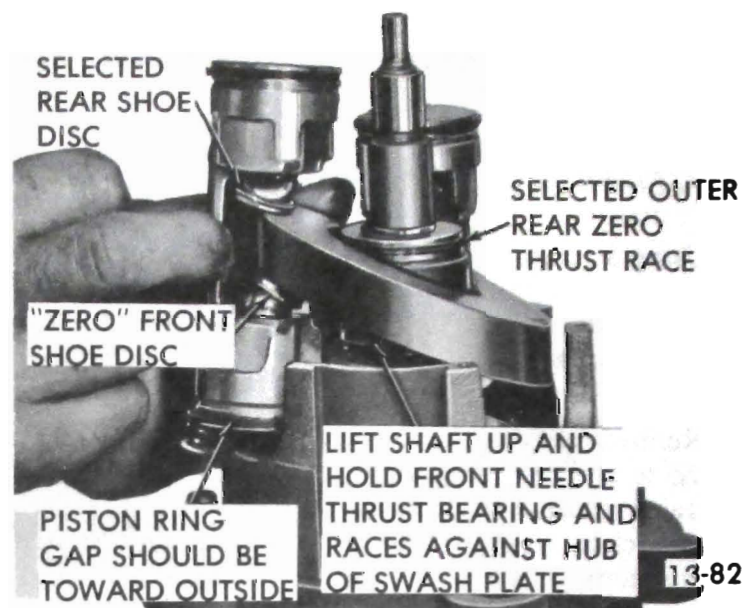

Figure 13-65 Installing Piston Assembly in Front Cylinder Half
3. Rotate shaft and swash plate assembly until high point of swash plate is over No. "1" cylinder bore. Position No. "1" piston onto swash plate (see Figure 13-65) and lower the piston and swash plate so that the front end (notched end) of the piston enters the cylinder bore.